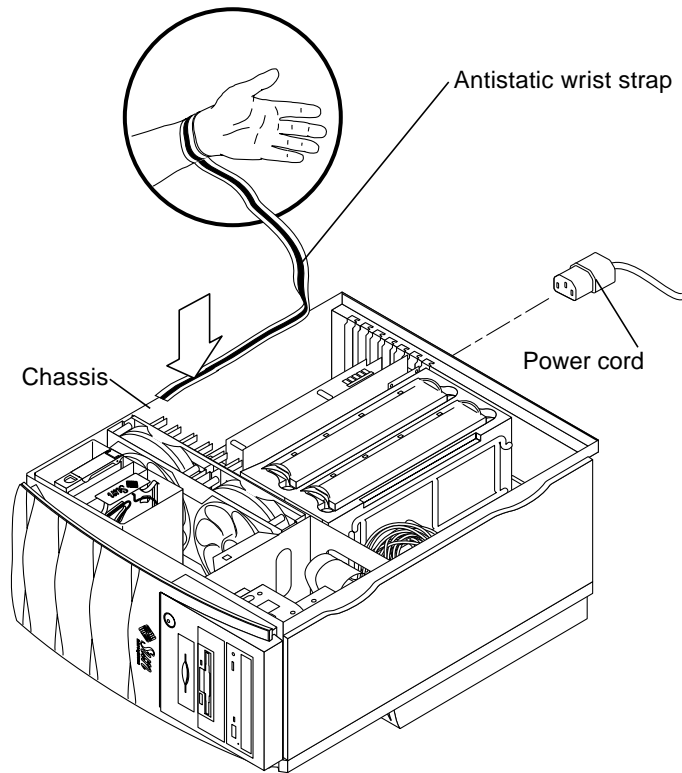

FIGURE 5-4 Attaching the Antistatic Wrist Strap to the Chassis
3. **Attach the copper end of the antistatic wrist strap to the chassis (FIGURE 5-4).**